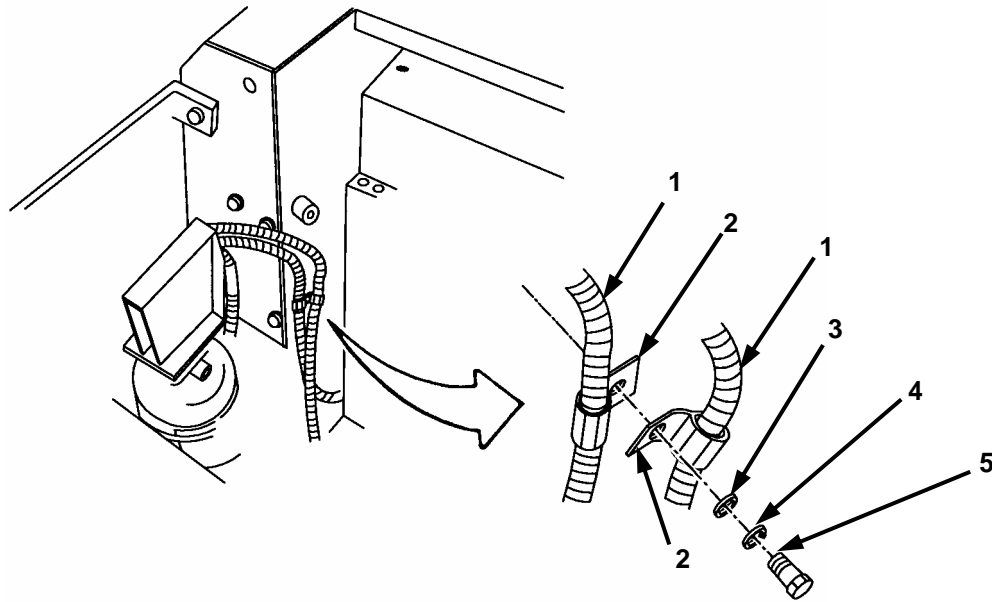

Figure 2-44. Blade Folder Hose Clamps (1 of 2).
- b. Secure two blade folder hoses (Figure 2-44, 1) with two clamps 900729-3 (2), one flat washer MS27183-14, (3) lock washer MS35338-46 (4), and screw B1821BH038C075N (5) to hole (Figure 2-11) on hull plate next to right side fire extinguisher.